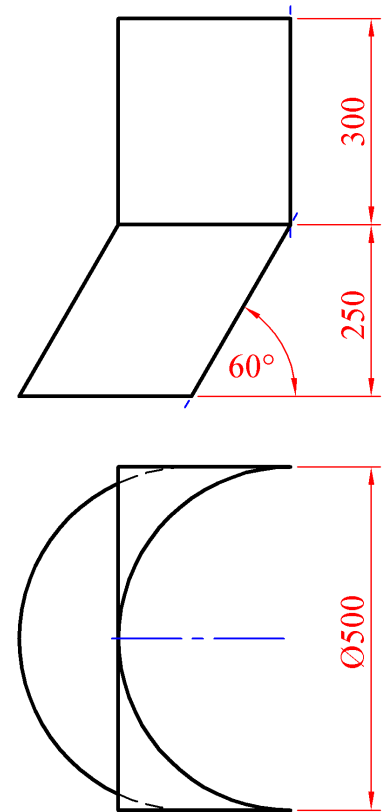

Fig. C-3(a)
- C-3. (a)** Fig. C-3(a) shows the projections of part of a copper ducting from an air-conditioning system in a hotel. A 3D graphic is also shown. The ducting consists of half of an oblique cylinder and a transition piece to a rectangular top as shown.
- (b)** Fig. C-3(b) shows the plan and elevation of a climbing apparatus for an outdoor activity centre. A 3D graphic is also shown. The structure has surfaces which are sloped at different angles to accommodate climbers of differing ability levels.